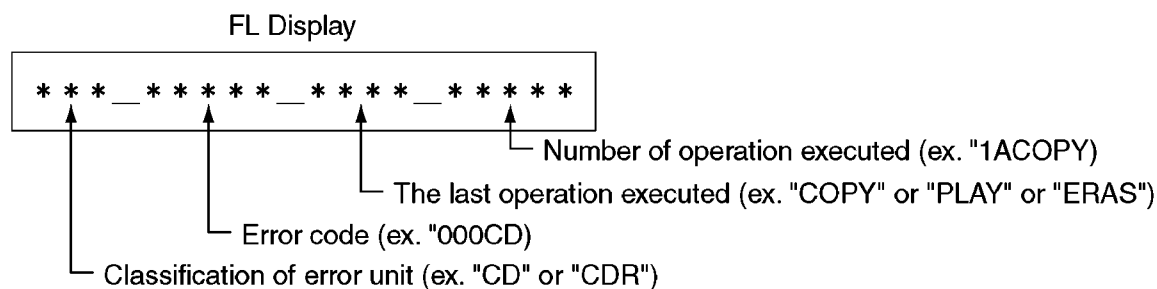

Fig. 12-3
2. The running operation is immediately stopped by pressing any of effective input by key, the remote controller, DCS operation. When running operation is interrupted by the “STOP” key or error, following message will be displayed continuously until the power source of the model is shut off. (Refer to Fig.12-3.)